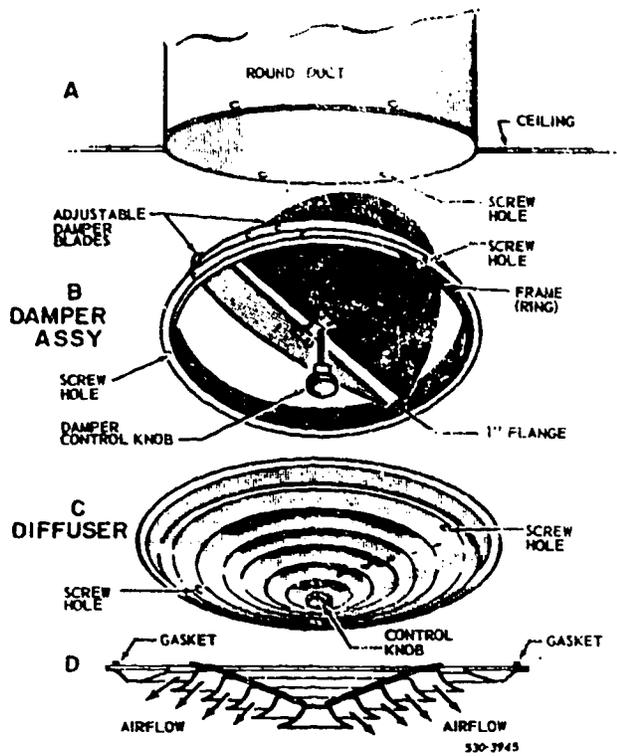

Figure 3-12. Ceiling diffuser and volume damper.
Ceiling Diffusers. Several types of ceiling diffusers are used at the supply outlet of some duct systems. Figure 3-12 shows a round diffuser with an adjustable damper assembly. View C shows the diffuser as it appears when installed over the damper assembly (B). View D is a cutaway view of the diffuser showing how the turn vanes diffuse the airflow. Notice how the airflow is dispersed in all directions from the diffuser. View B shows the parts of the volume damper assembly, including the frame (ring), adjustable butterfly damper blades, and control knob. You can open and close the blades by turning the knob, which is attached to a threaded shaft. Some damper assemblies of similar design have a pull chain to open or close the blades.